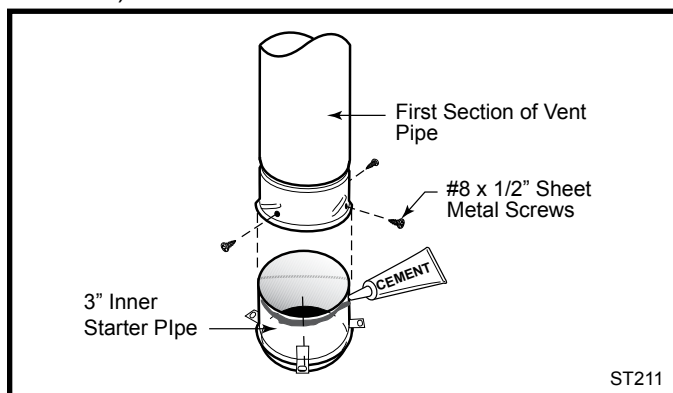

Figure 18 Connect the inner starter with the next section of inner vent pipe.
- Drill three pilot holes into the Inner Starter and secure the assembly with three sheet metal screws. (Figure 18)